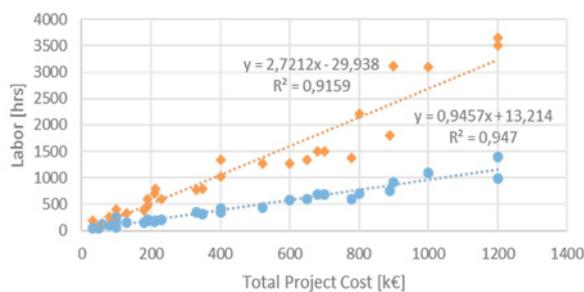

Fig. 1 Regression Analysis example over two skills
1. The *Labor Multiplier (LM)* approach assumes that in each project type, the projects will have the same level of labor requirements per unit of project expenditure, and will follow standard patterns [5]. Based on the past projects’ labor deployment per skill and their expenditure, the number of laborers for each trade/job role in form of [man-days/€] for individual type of project can be derived. For example, a company producing two products, “Tank” and “Burner”, might calculate, based on the past data, that for every 100.000€ of expenditure in the design phase of a project classified as “Tank”, 150 hours of employees with designing skills and 100 hours of employees with analysis skills will be required. Furthermore, for every 100.000€ of expenditure in the construction phase of a project classified as “Tank” type, 100 hours of welding skills will be needed. This method is recommended to all organizations, especially small to medium size companies, due to its need for data coming from only a few past projects, its simplicity, and its acceptable accuracy. On the other hand, it requires to be constantly updated alongside the technological and methodological improvements.
2. The *Linear Regression (LR)* model is a time series forecasting method that identifies historical patterns in past data to extrapolate future trends. The cost of the project and the type of the project are good predictors of future manpower requirements. As a consequence, once the costs and labor deployments per skill or job role (e.g., drawing and welding) from at least 30 completed projects of the same type have been collected, it is possible to estimate the future labor hours per skill, knowing the expected cost of the future project. Excel allows to show, as an option of the scatter plot (fig. 1), the linear trend relationship between project cost and labor for each skill, together with the mathematical equation which rules it. In the case of low R^2 (max 1), the use of this method is not recommended.
By exploiting the equations in fig.1 and assuming a x future project expenditure, the workforce hours demanded per skill can be foreseen. The presented model is suitable for medium to big size project-oriented companies, able to provide a relevant sample of past projects not too distant in time (old projects might have recurred to different techniques and methods).